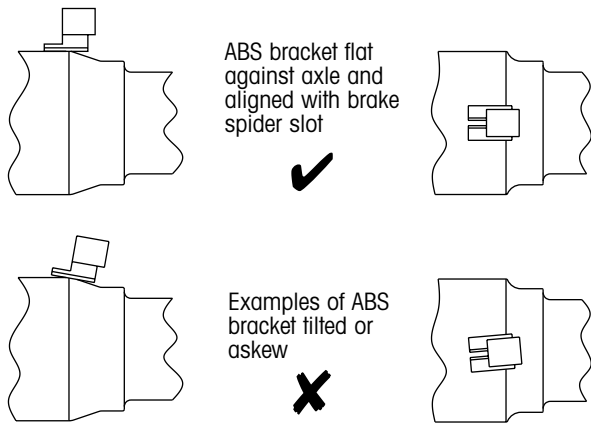

Figure 3. Properly positioning the ABS bracket
- Temporarily clamp the bracket in place. Make sure the ABS bracket is flat against the axle and aligned with the slot in the brake spider. The ABS bracket must not be tilted or askew (figure 3).